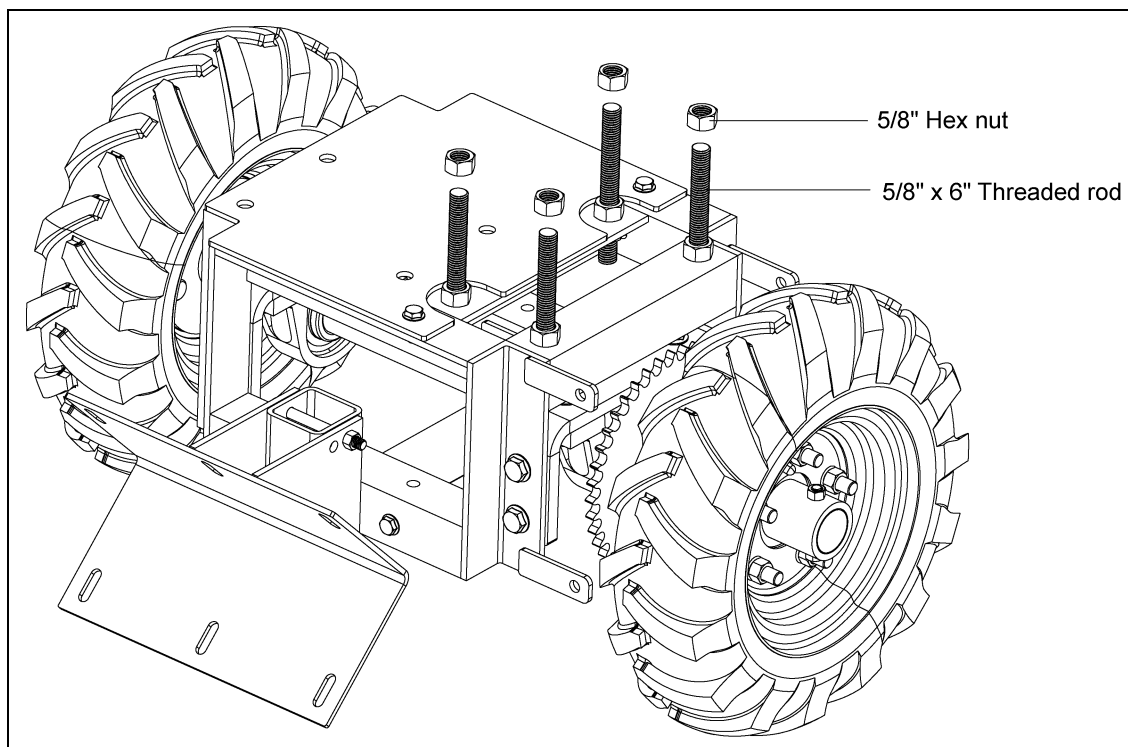

Figure 4F
12. Place one 5/8"-11 hex nut onto each rod in a temporary position. These will hold the motor plate in place. (See Figure 4F.)